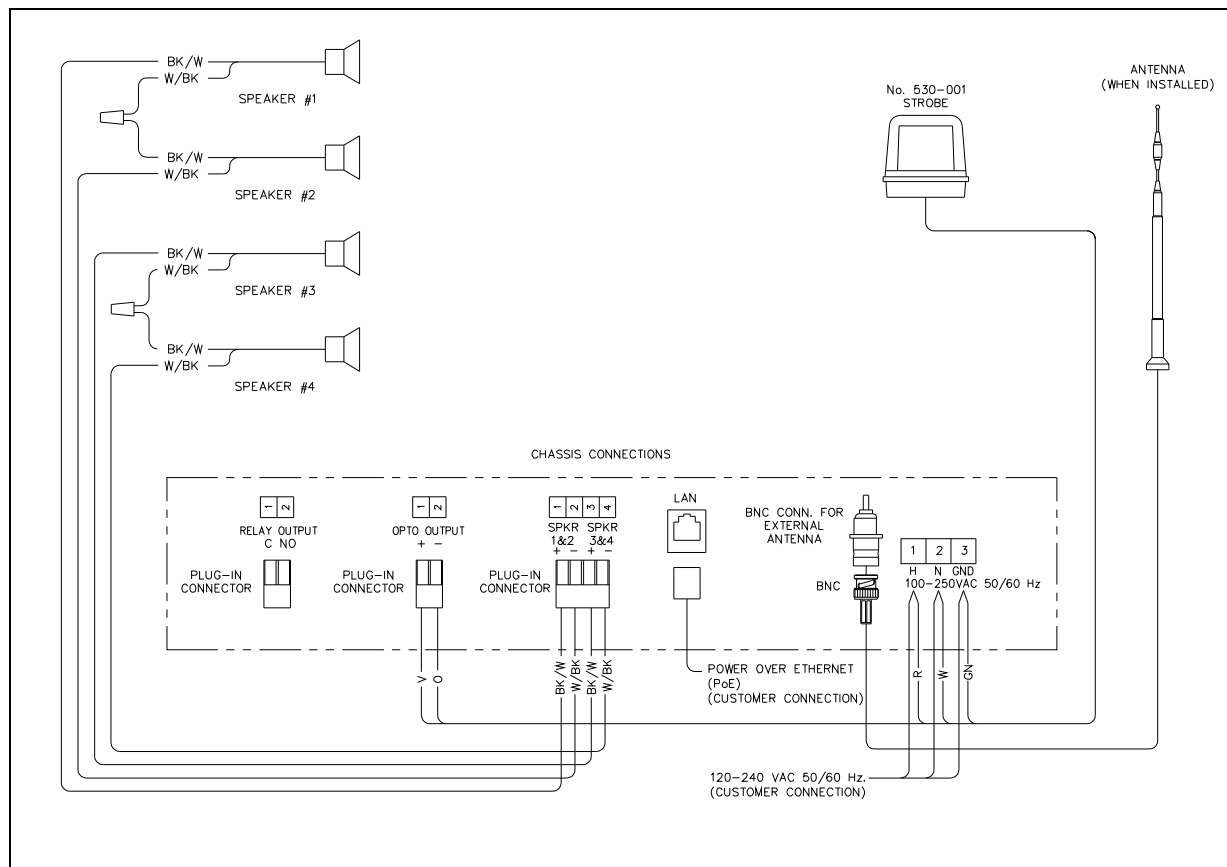

Figure 6. Field Wiring Connections
The paging modules have terminal blocks on the front of the assembly for all field wiring. The terminal block labels indicate their functionality (see Figure 6).
2. Install all connections as indicated in the following subsections (see Table 2 and Figure 6 for wiring details).
**NOTE:** The external power supply is required for Model 10458-801 (see Figure 6).
Speakers 1 and 2 are series-wired onto terminals labeled 1 and 2. Speakers 3 and 4 are series-wired onto terminals labeled 3 and 4 (see Figure 6).